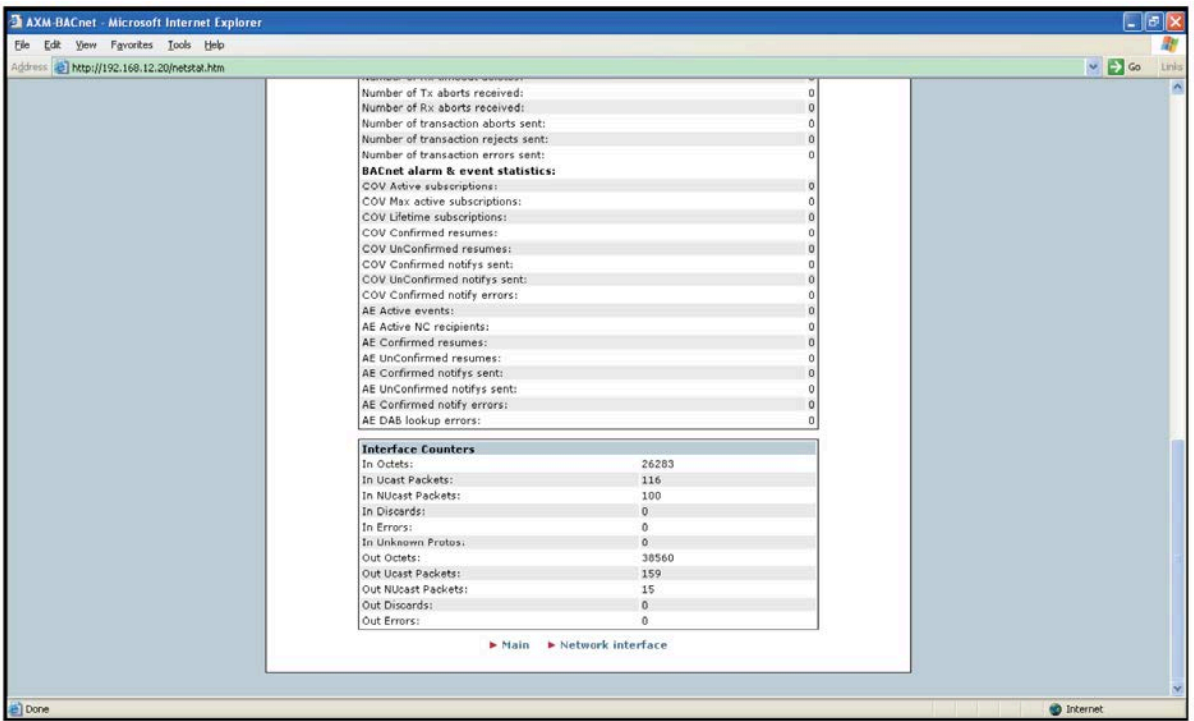

Fig 5-90
d). Set Baud Rate in the second setting page, such as 38400. The module can support the baud rate such as 9600, 19200, 38400, 76800. Press the "V/A" key to go to the setting page. Users may set the parameters pointed out in Fig 5-90. After setting the BACnet MS/TP Baud rate, press the "V/A" key to accept. Press the "P" key to go to the third setting page for the MAX INFO FRAM.